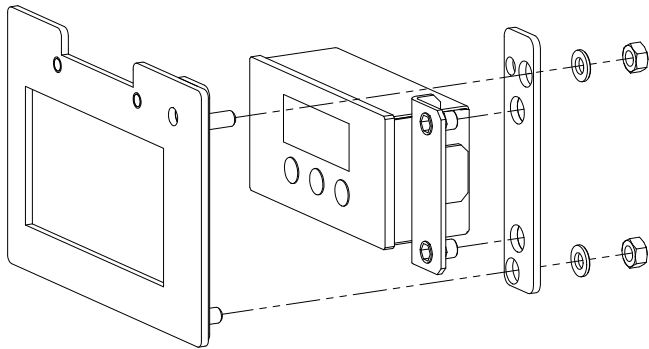

Fig.2
- Install the supporting plate included with the washers and nuts to the electronic (Fig.2).